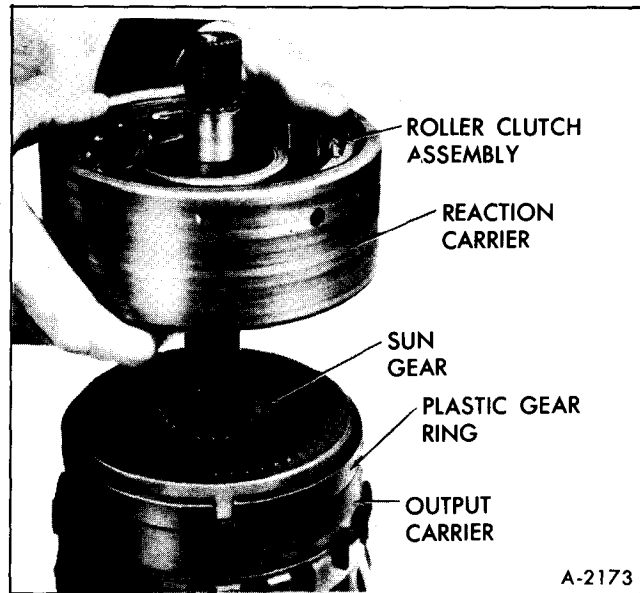

Figure 49—Removing Reaction Carrier
3. Remove reaction carrier and roller clutch assembly from output carrier, Figure 49, and remove roller clutch assembly from reaction carrier.